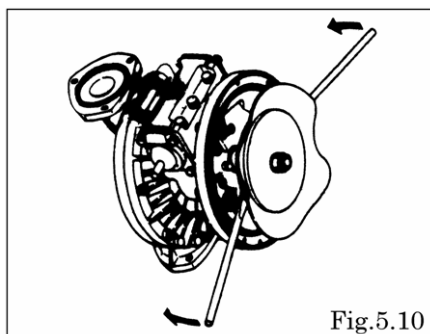

Fig.5.10
- Grip the inside center disk using crowbars and draw it to the opposite side, then turn the diaphragm over. (exclude B□H, B□S, B□H/T type) [Fig.5.10, 5.11]